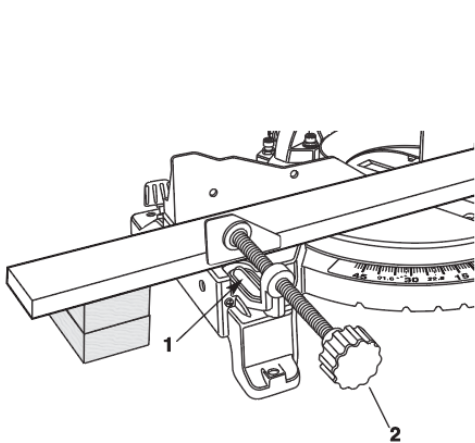

Fig. 18
Vice Clamp-This clamp easily secures a workpiece in either of two (2) clamp holes on the front of the base (Figure 18) .
⚠ WARNING :There may be extreme compound cuts where supplied clamp cannot be used. Support with hand outside No Hands Zone or use conventional clamps . Do not try to cut short pieces that can not be clamped and cause your hand to be in the NoHands Zone . Do not position clamp over an unsupportedportion of the workpiece (Figure 18 & 19) . Conventional Clamps and other hold down devices can beused to hold the workpiece firmly against the table and the fence